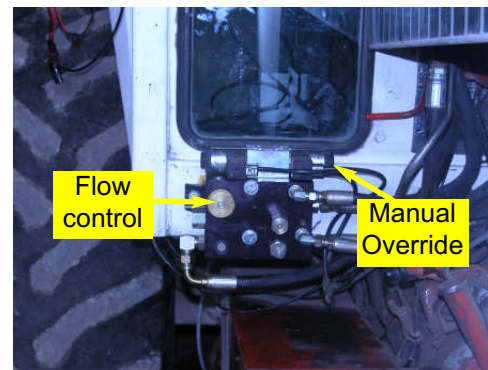

Figure 9. Automated Steering flow control knob and manual override button.
- Turn counter-clockwise to increase flow.(Figure 9.)
- f. Count the number of seconds for the steering wheels to move all the way in the opposite direction while pressing the manual override the other coil. (Figure 9.)
- g. Adjust the Automated Steering oil flow control to achieve an end-to-end steering cycle time of approximately **18** seconds. Use the knurled locking nut to secure the final flow control setting. (Figure 9.)